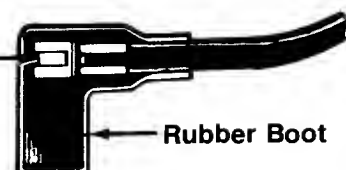

FIGURE 11.
1. Attach spark plug wire to spark plug. If unit is equipped with a rubber boot over the end of the spark plug wire, make certain the metal loop on the end of the spark plug wire (inside the rubber boot) is fastened securely over the metal tip on the spark plug. See figure 11.